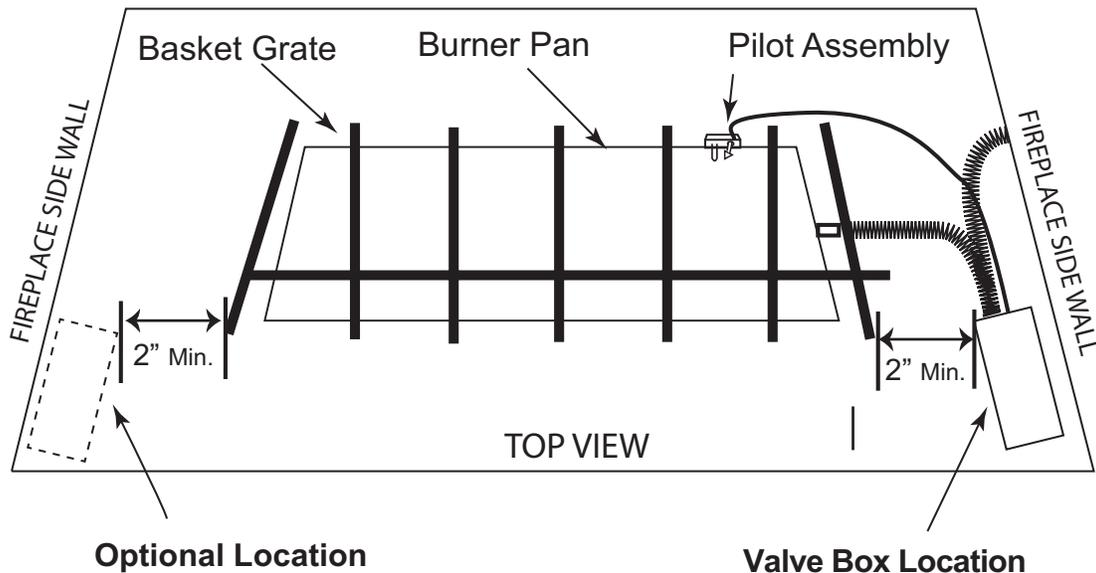

Fig. 3. Valve box location.
CAUTION: Before installing this valve kit into the fireplace ensure you can maintain proper clearances from the valve box to the basket grate (See Fig. 3 page 3). The valve kit measures 6½" tall x 3½" wide x 8" deep to the gas fittings. If proper clearances cannot be maintained, then you should not install this valve kit.
7. Locate the Ecoflow valve box in the right front corner (or left front corner if applicable) of the firebox **as far forward as possible** (See Fig. 3) and maintain a minimum of 2-inch clearance from the side of the basket grate. **CAUTION:** When installing logs on basket grate ensure no logs lay across valve kit. Some logs, depending on material, can transfer heat through the metal boxes and cause damage to internal components.
5. Locate the valve box in the right front corner (or left front corner if applicable) of the firebox **as far forward as possible** (See Fig. 3) and maintain a minimum of 2-inch clearance from the side of the basket grate.